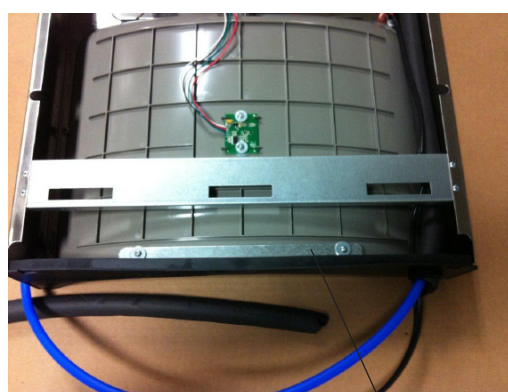

Fig. 7
- 6) Install gasket on bottom of bottle filler tower with gasket support bracket, (2) washers, & (2) screws (See Fig 7).